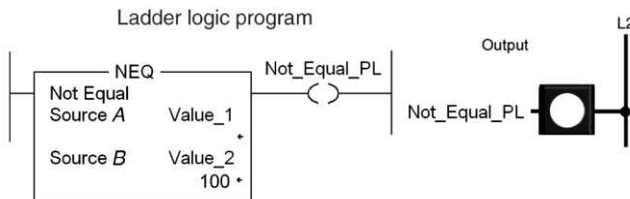

Figure 15-45 NEQ instruction rung for question 6.
6. For the NEQ instruction rung shown in Figure 15-45, what value stored in Source A would make the instruction logically true? 6. _____